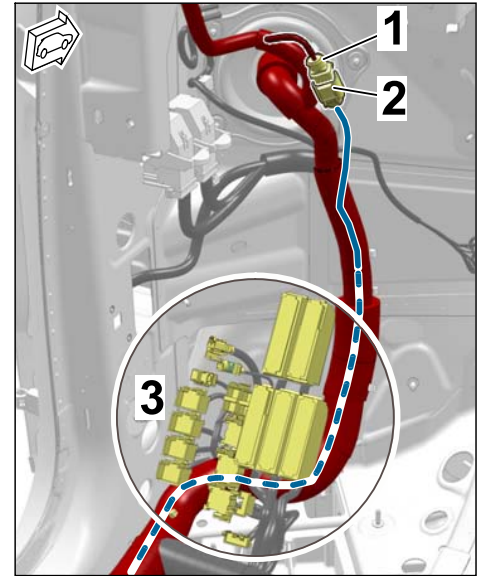

Figure 14
3.2.1 A-pillar area, left (⇒ *Figure 14*)